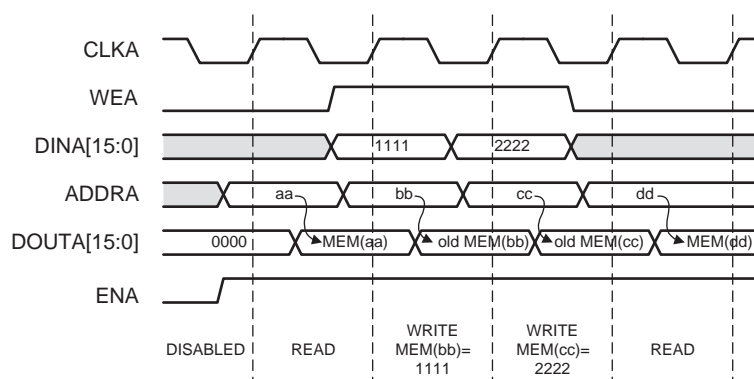

Figure 27: Read First Mode Example
- **Read First Mode:** In READ_FIRST mode, data previously stored at the Write address appears on the data output, while the input data is being stored in memory. This Read-before-Write behavior is illustrated in Figure 27.